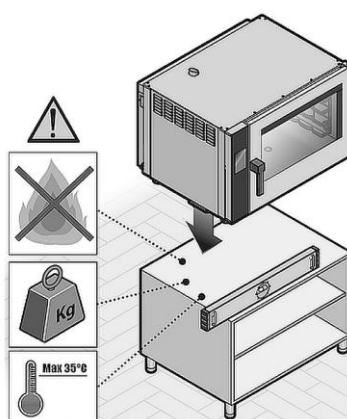

Fig. 8
**In any case, these units must be perfectly level and stable, and must be suitable for a fully loaded appliance. Their surface must be fireproof and heat-resistant (Fig. 8).**